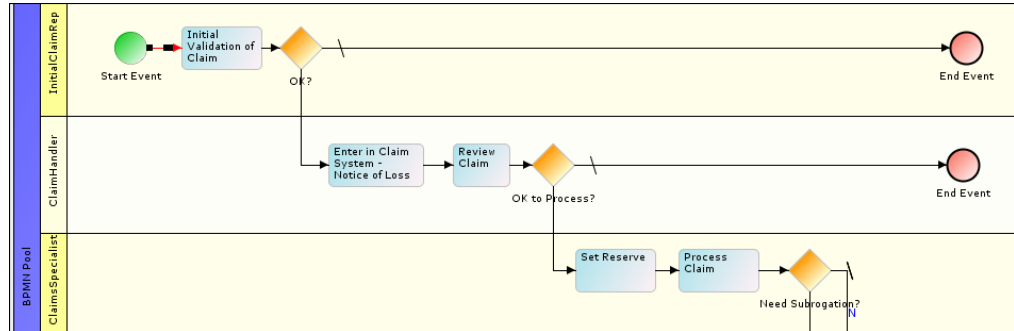

Figure 7.29: New Color for Pool
3. Select the color for the Pool and click **OK**. This changes the Pool color to the new color (see Figure 7.29).